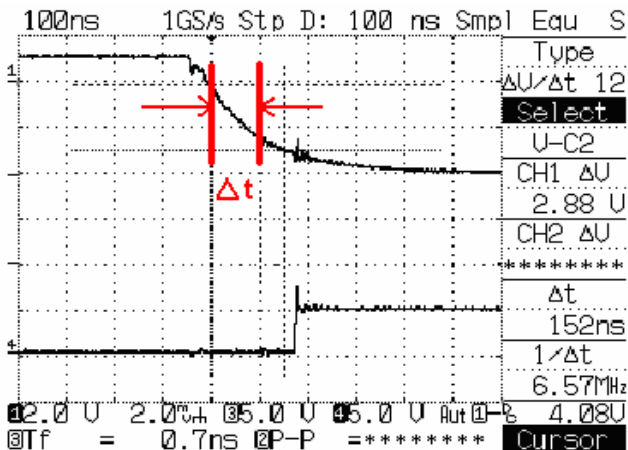

Fig.14
Step 6: Timing adjustment.(VR via) The Timing adjustment should be performed under light load circumstance. A variable resistor “R_t”, 0~100KΩ, is connected from Timing pin to V_{DD} and adjust the variable resistor. Changing the resistor value will change dv/dt slope Fig.14.